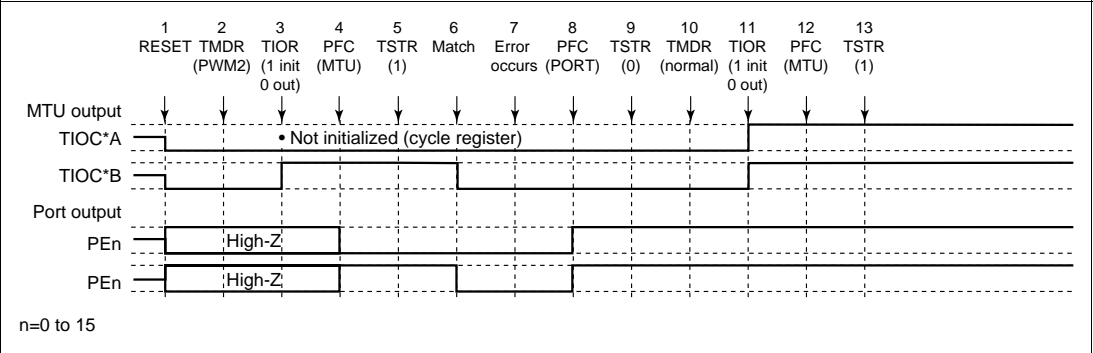

Figure 12.108 Error Occurrence in PWM Mode 2, Recovery in Normal Mode
(13) Operation when Error Occurs during PWM Mode 2 Operation, and Operation is Restarted in Normal Mode: Figure 12.108 shows an explanatory diagram of the case where an error occurs in PWM mode 2 and operation is restarted in normal mode after re-setting.
- 1 to 9 are the same as in figure 12.108.